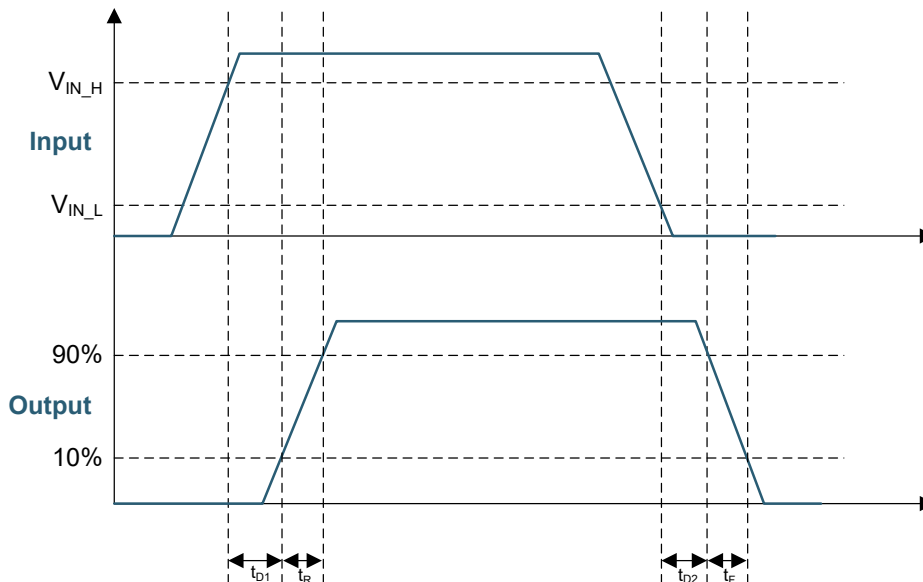

Figure 6-1. Non-Inverting Configuration (PWM Input to IN pin)
(1) Switching parameters are not tested in production.
(2) See timing diagram in Figure 6-1.